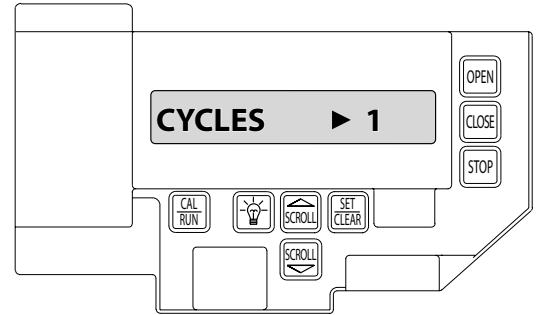

Fig.1
- 2) Press SCROLL until display reads "CYCLES>1,2,3 etc. where the number is the number of open/close cycles the operator has performed. Fig. 1